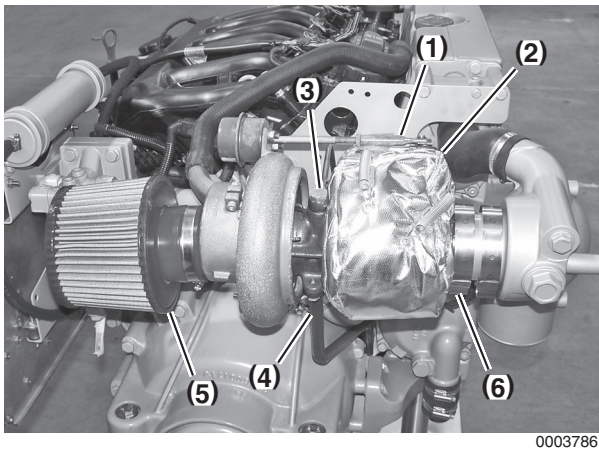

Figure 9-3
1. Remove air filter (**Figure 9-3, (5)**).
2. Disconnect wastegate control rod (**Figure 9-3, (1)**).
3. Remove the insulating cover (**Figure 9-3, (2)**).
4. Disconnect the lubrication supply line (**Figure 9-3, (3)**) and return line (**Figure 9-3, (4)**) from the turbocharger.
5. Loosen turbocharger-to-mixing elbow clamps (**Figure 9-3, (6)**) and pull elbow away from turbocharger.